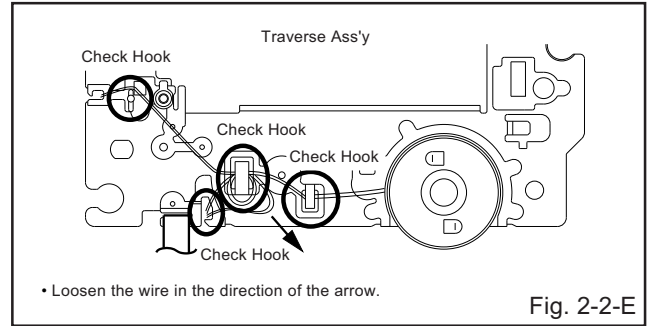

Fig. 2-2-E
4. After the assembly of the Traverse Ass'y, hook the wire on the Traverse Ass'y as shown Fig. 2-2-E.